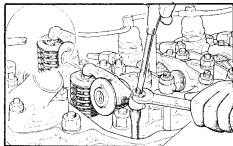

Fig. 14 - Adjusting the valve rocker clearance
- Hold the adjusting screw with a screwdriver and slacken the locknut (Fig. 14).